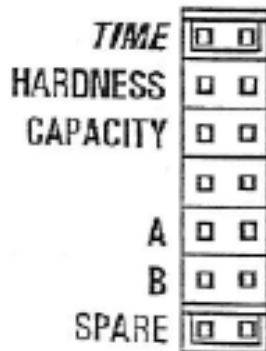

FIGURE 3
3. Pull the jumper off the top 2 pins and place it on the next set of pins next to the word HARDNESS (Figure 3). **If water was tested by Master Water Conditioning, follow recommendations on water analysis.** Depress the TIME SET BUTTON until the correct hardness is displayed. The hardness range is from 1 to 99 grains per gallon.